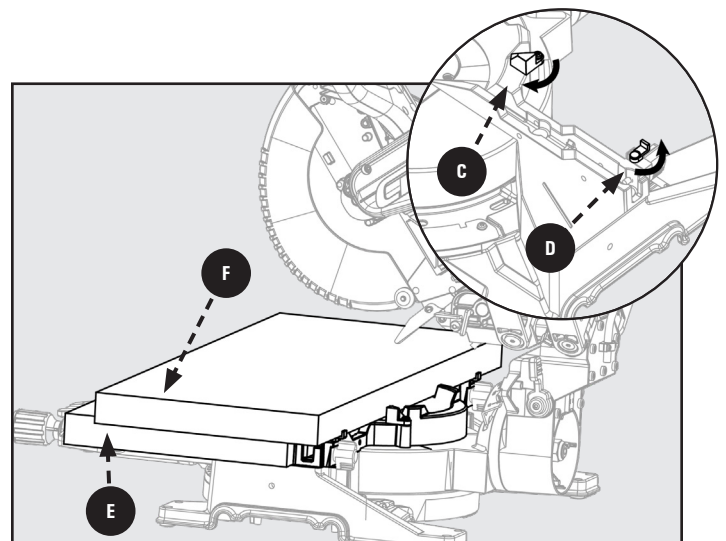

Figure 40
2. Flip the back fence support tabs **(C & D)** into position. Tabs **(D)** are on both the left and right sides of the lower (fixed) fence. Tab **(C)** only exists on the right side of the lower (fixed) fence. These will function as your workpiece backstop. See Figure 40.
3. You will need to add a 2 x 12 inches (1 1/2 x 11 5/8 inches) auxiliary table board **(E)** to support your large capacity workpiece **(F)**. See Figure 40.